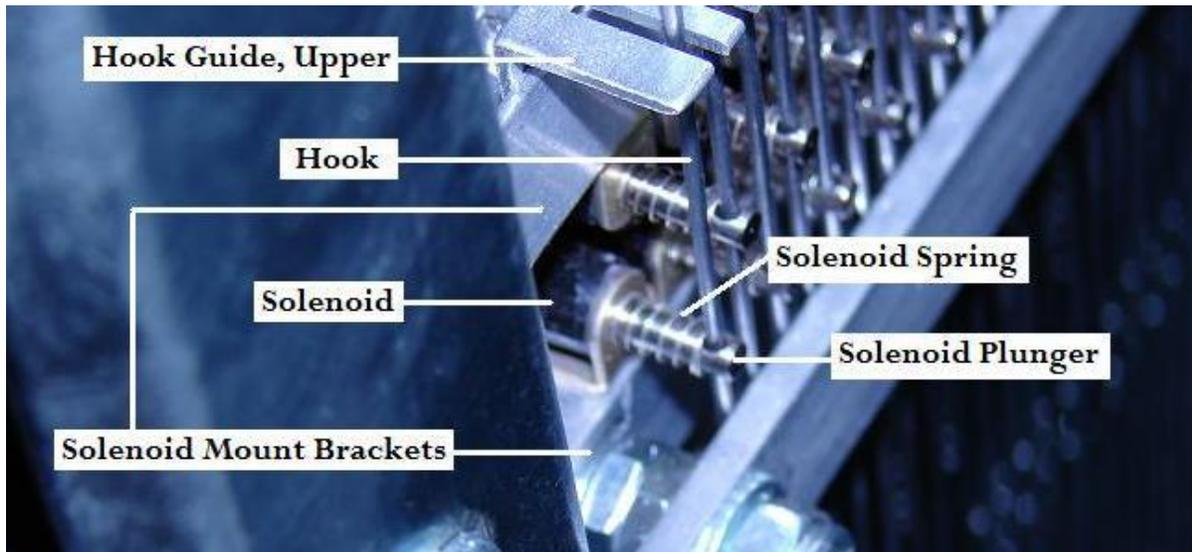
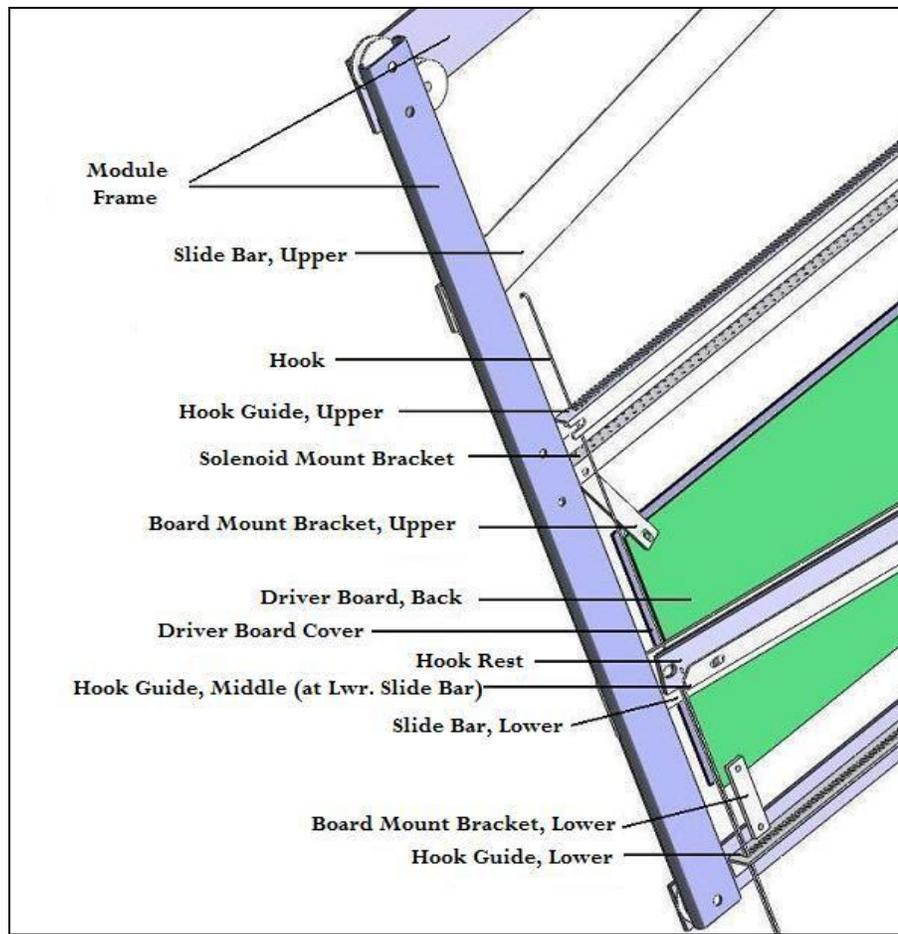

Fig. 1 – Solenoid, Plunger and Spring Detail
Fig. 2 – Identification of Module Parts
- Refer below to Fig. 1 for Solenoid and Spring Detail and Fig. 2 for Module Parts, as well as the Manual for your Jacq3G Loom.
6. When the Hook is out far enough that the Upper Hook is just above the Upper Guide, at the Upper Solenoid Bracket, locate the Solenoid Plunger and Spring Assembly, attached to the Hook (See Fig. 1, above). Use the thumb and forefinger of your free hand to firmly pinch the Plunger, Spring, and Hook. (*Do not use any type of pliers or grasping tool for this, as you may damage the Plunger, Spring or Hook*). It may be necessary to gently push in adjacent Plungers/Hooks to allow room for your finger tips; this will not harm these units.